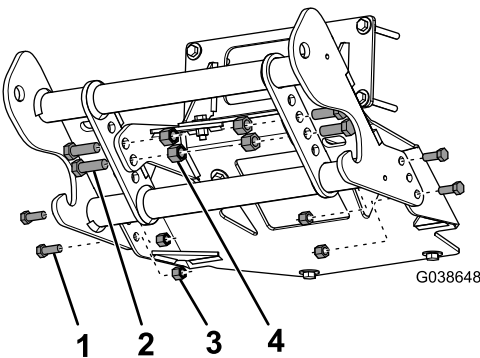

Figure 5
- 11. Mount the pushbeam to the plow skid plate using 4 bolts (1/2 inch), 4 locknuts (1/2 inch), 4 bolts (3/8 inch), and 4 locknuts (3/8 inch) as shown in Figure 5.